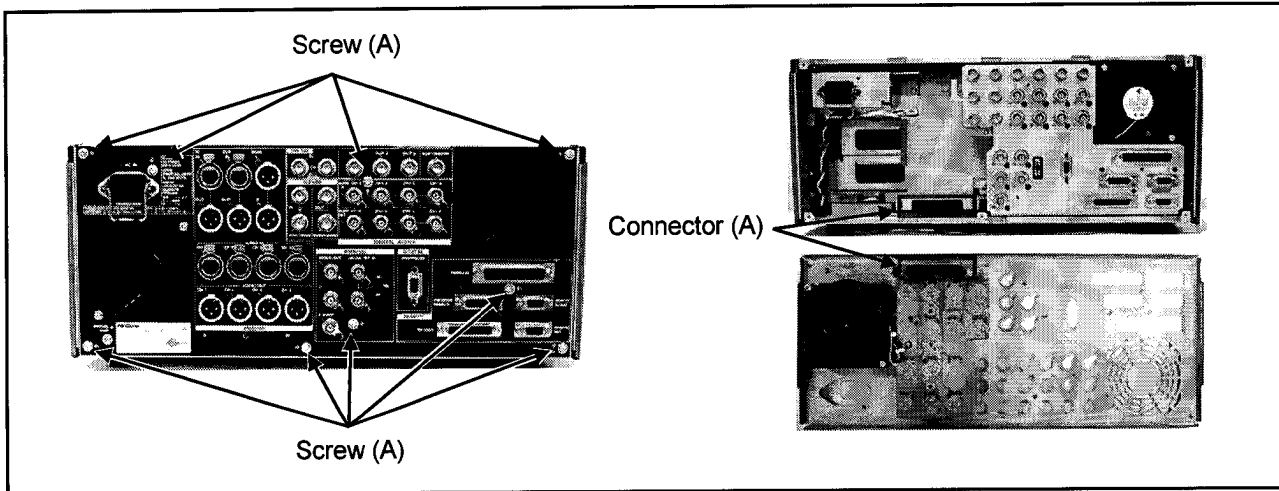

Figure 8-1
2. Unscrew the 9 screws (A) as shown in figure 8-1.
3. Disconnect a connector (A) combined with the MOTHER P.C.Board as shown in figure 8-1 and remove the Jack Panel.
The connector (A) should be connected completely as shown in figure 8-1 and confirm that the Jack Panel fitted in a unit correctly as shown in figure 8-1 when you install the Jack Panel.